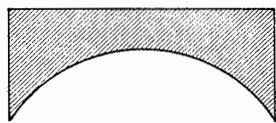

Fig. 81
98. A *Concave* surface is one that curves inwardly. Fig. 81.